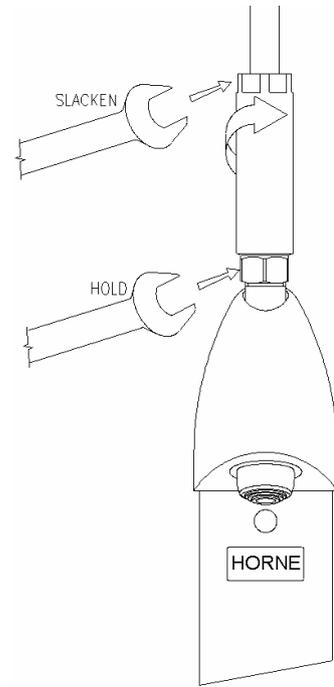

Fig 3
Using two spanners, slacken the COVER NUT (3) while holding against the OUTLET CONNECTOR (1) and slide the COVER NUT (3) up the pipe (see Fig 3).